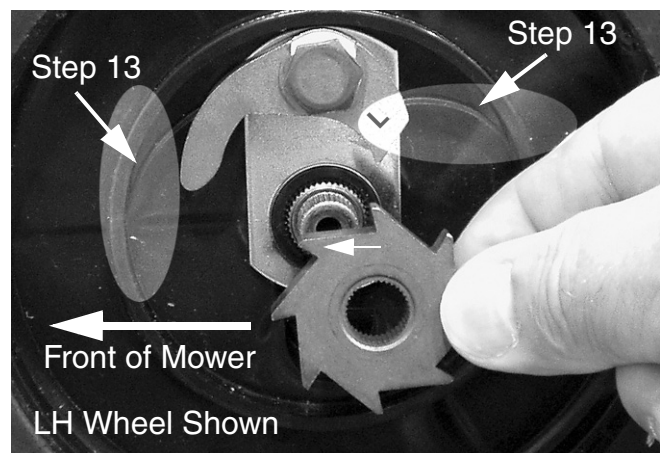

FIGURE 4
13. Install the LH Pawl w/ Plastic Spring (from Step 11) onto a Shoulder Screw, Item 6, and secure to the wheel. Ensure that the plastic spring is set into the inside wheel rim as shown in Figure 4.
16. Refer to Figure 4. Install a new Wheel Ratchet, Item 7, onto the splined axle shaft. Make sure that the teeth on the wheel ratchet point towards the front of the mower.